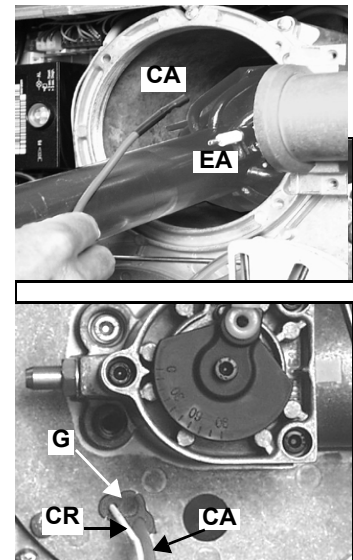

Fig. 46
- 3 Remove the connector **CR** of the ionization electrode (Fig. 46).
- 4 Unplug cable **CA** of the ignition electrode **EA** (Fig. 46) and extract it from the flange by removing the rubber **G** (Fig. 46).